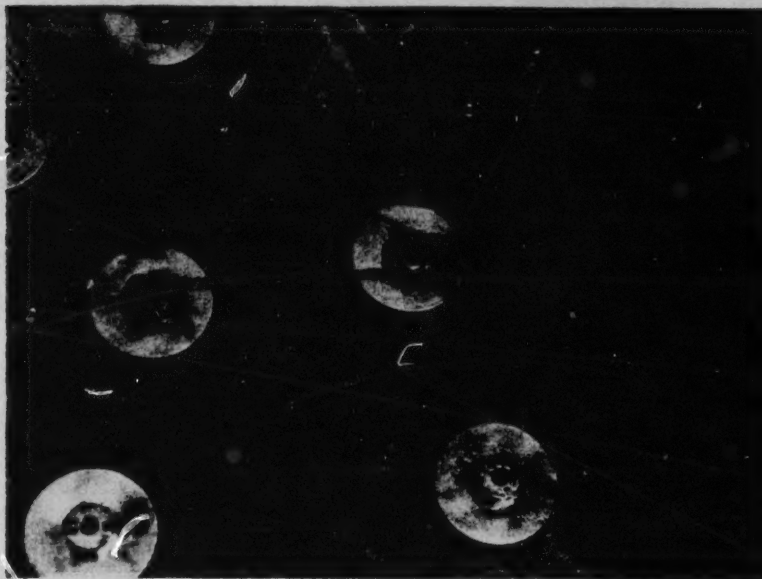

Figure 16. Starting the Twist by Hand.
14. Twist the two wires together by hand. Make sure the first twist begins at the drilled hole. Make about three twists clockwise while pulling firmly on the wire. See figure 16.